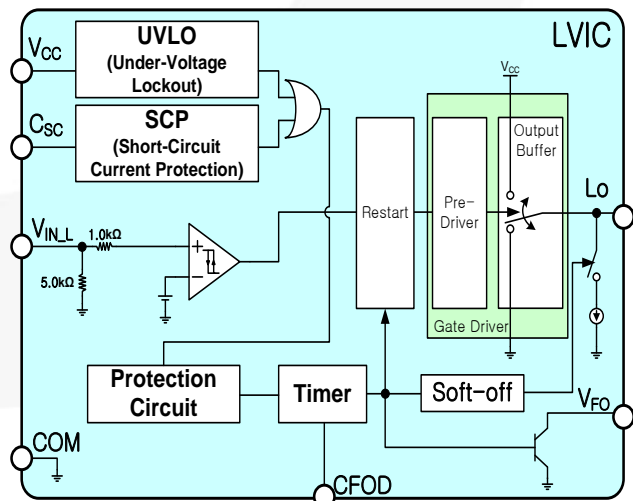
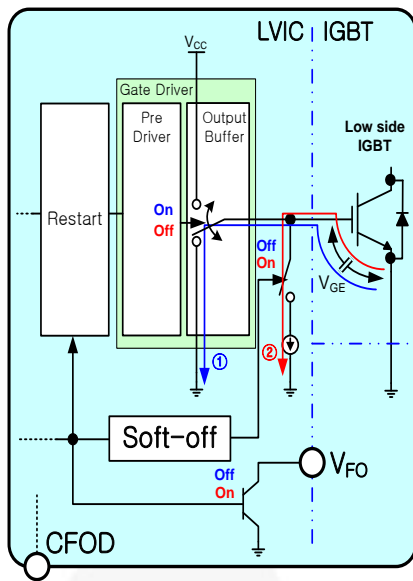

Figure 23. Internal Block Diagram of LVIC
Figure 24. Operation Sequence of Soft Turn-Off
An internal block diagram of LVIC and the operation sequence of the soft turn-off function are shown in Figure 23 and Figure 24. The function operates by two internal protection functions (Under-Voltage Lockout (UVLO) and Over-Current Protection (OCP)). When IGBT is turned off under normal conditions, the IC turns off the IGBT
immediately by turning the gate signal ($V_{IN,L}$) off via the gate driver block. The pre-driver turns on the output buffer path of the gate driver block to discharge the gate charge through path 1 (① in Figure 24). When the IGBT is turned off by a protection function, the gate driver is disabled by the protection function signal via output of the protection circuit (disable output buffer, high-Z). The output of the protection circuit turns on the switch of the soft-off function. Therefore, V_{GE} is discharged slowly via the soft-off, path 2 (② in Figure 24).